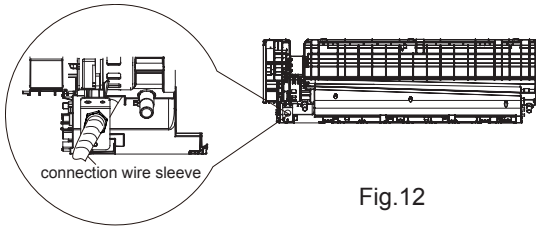

Fig.12
(2) Fix the wire crossing board on connection wire sleeve at the bottom case; let the connection wire sleeve go through the wire crossing hole at the back of indoor unit, and then pull it out from the front. (As show in Fig.12)